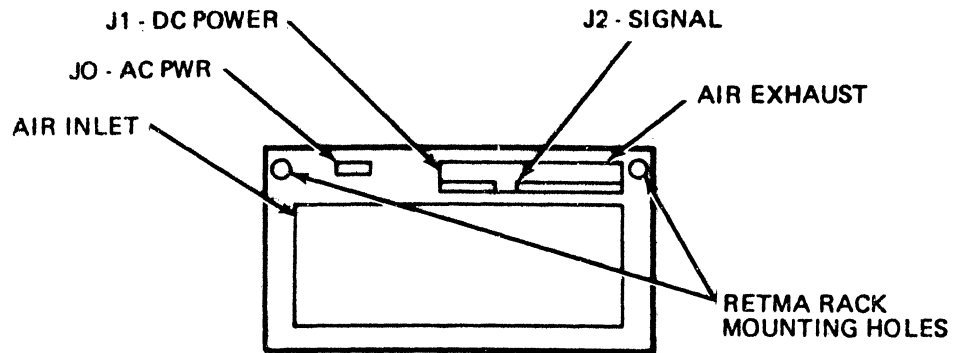

Figure 3-1. Air Filter
- a. Weekly - inspect air filter and replace if clogged (Figure 3-1).
- b. Semi-annual - replace air filter (Figure 3-1).